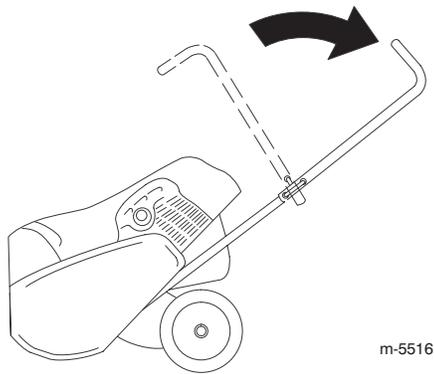

Figure 8
3. Position the upper handle as shown in Figure 8.